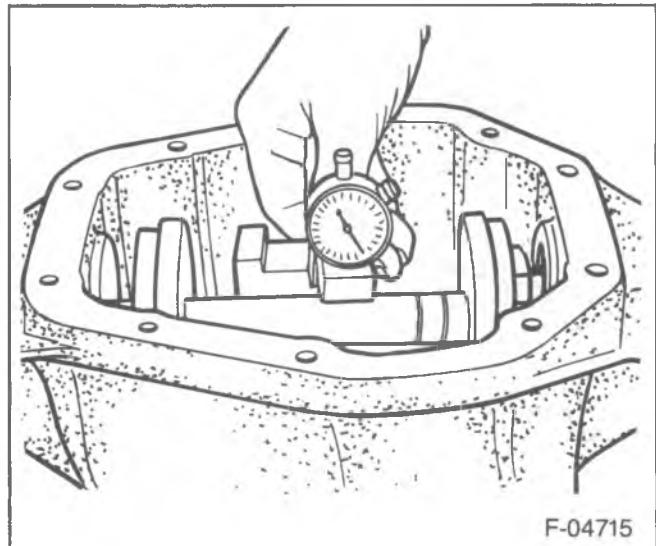

Figure 108—Scooter Gage on the Arbor
7. Slide the gage over the arbor (figure 108).